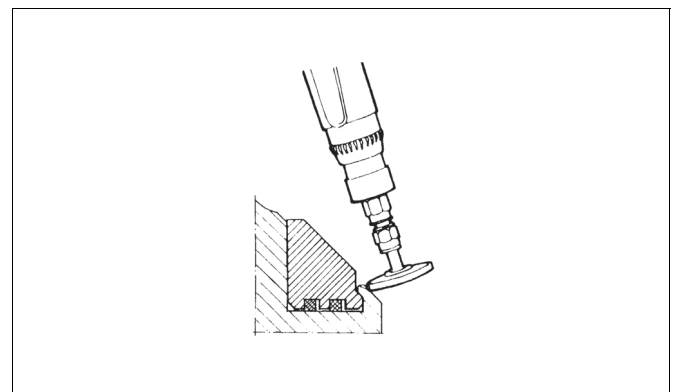

Fig. 9 Grinding the seat locking
- First grind down the locking points with a grinder, see Fig. 9.